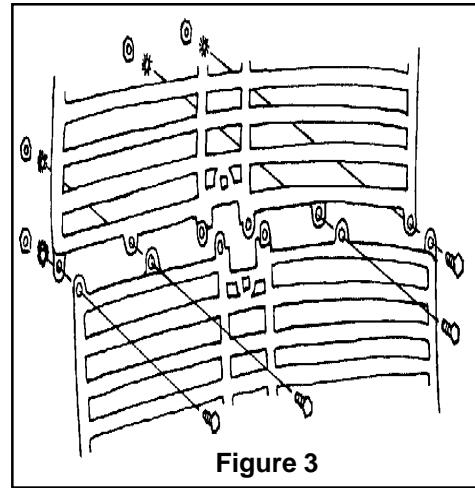

Figure 3
6. Mount the complete unit on a 1-2" O.D. mast or on Conifer's optional DS-1000 mount assembly. (See Figure 3.)